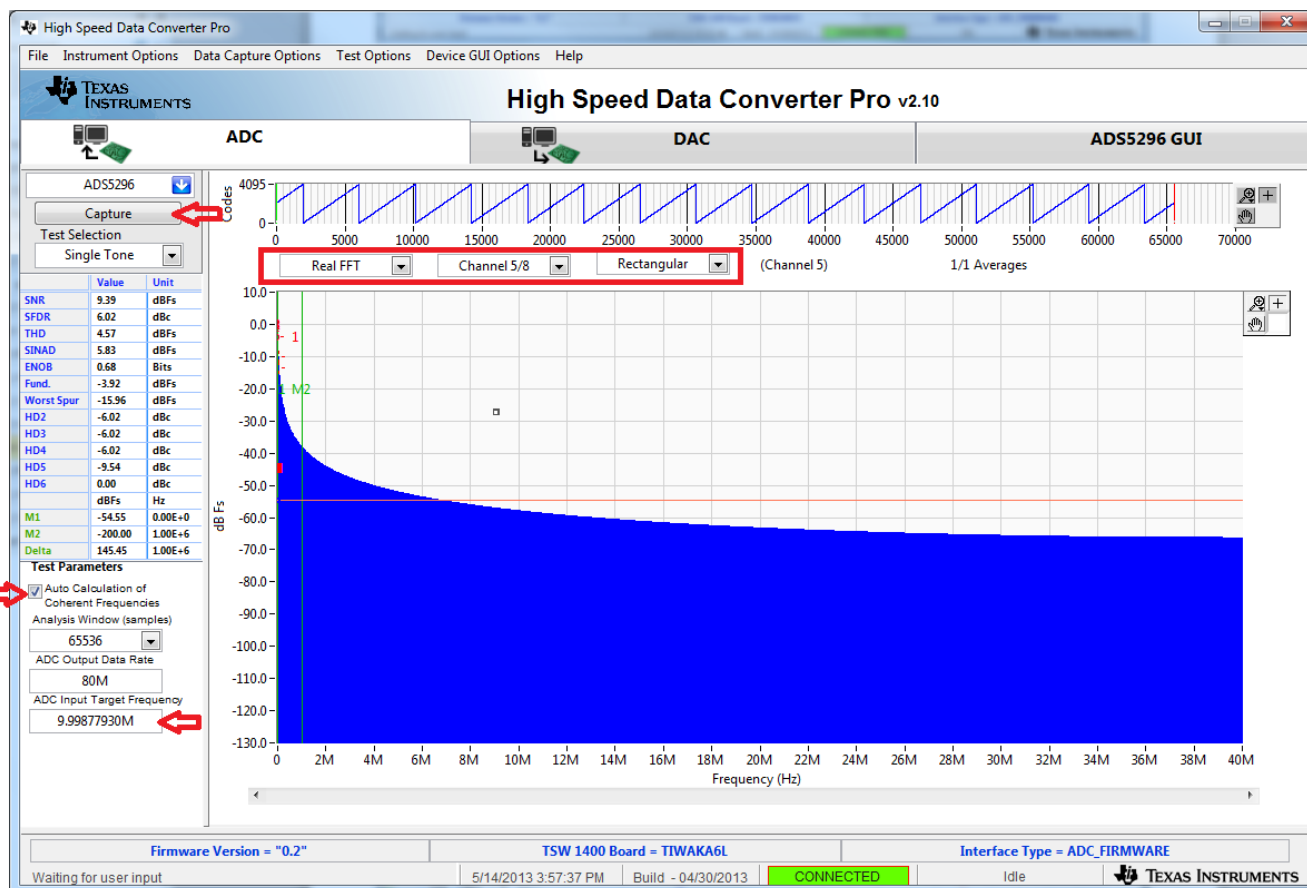

Figure 40. HSDCpro GUI Setup for Octal Non-Interleaving Mode (b)
4. Click on the ADC tab and perform the following steps as illustrated in Figure 40.